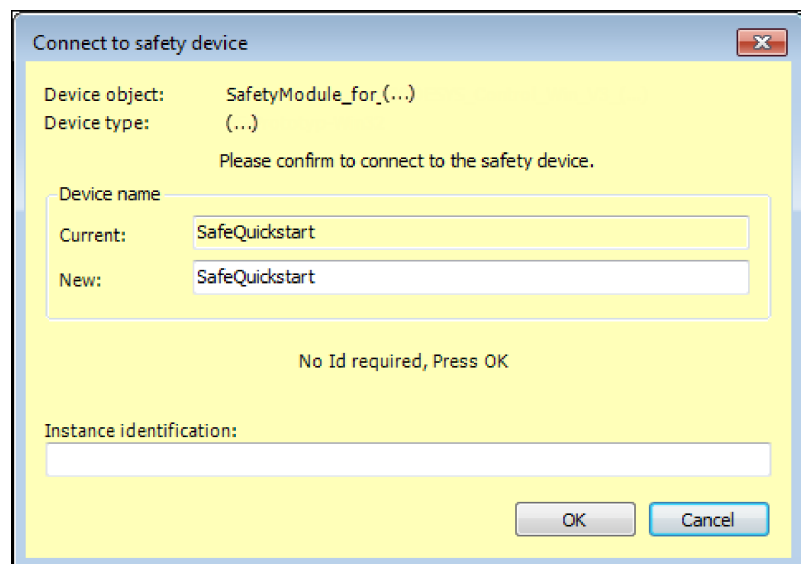

Fig. 78: Dialog for changing the device name
6. ▶ Enter a new, unique name in the “*Connect to safety controller*” dialog (see Fig. 78).